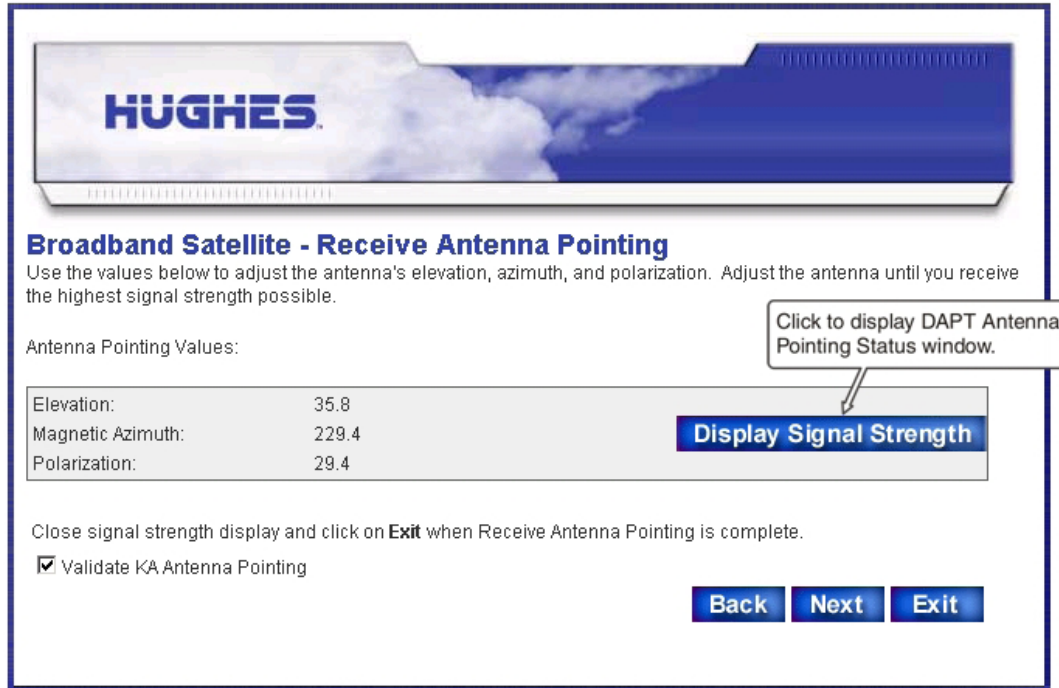

Figure 27: Receive Antenna Pointing screen
- On the Receive Antenna Pointing screen, click **Display Signal Strength** (Figure 27: Receive Antenna Pointing screen on page 40) to open the DAPT Antenna Pointing Status window.